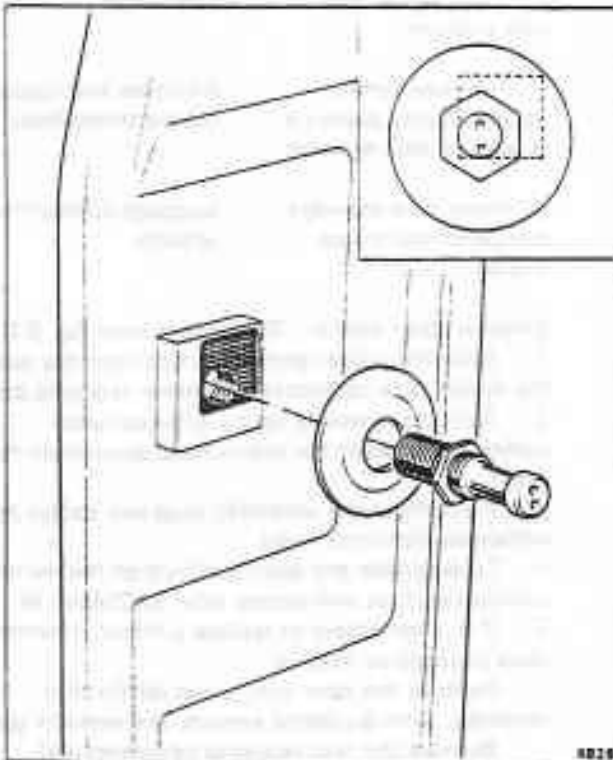

Fig. S3-19 Correct position of striker pin in 'B' post
2. Set the pin assembly to the bottom outer corner of the hole in the 'B' post (see fig. S3-19). Hold the striker pin steady and screw the lock-nut finger tight.